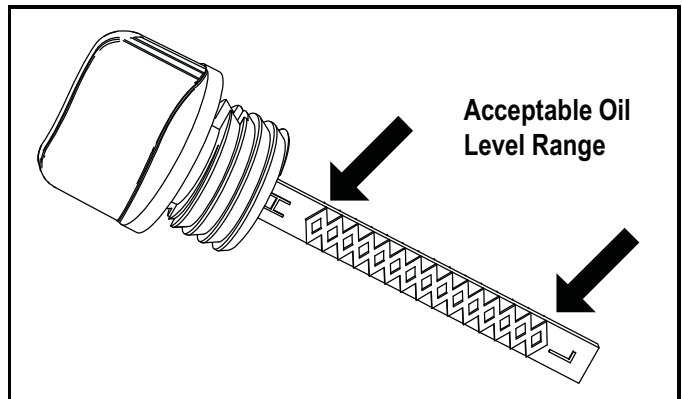

Figure 6-6. Dipstick
5. If level is low, fill until the oil level is between “L” and “H” on the dipstick (Figure 6-6).
4. Remove oil fill cap (Figure 6-6).